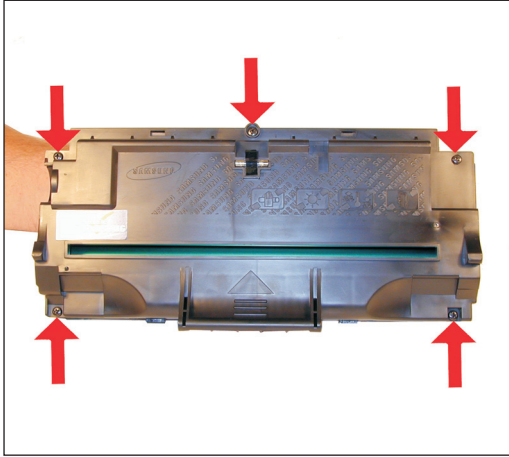

Figure 6
- 1) Place the cartridge with the handle facing up. Remove the 5 top cover screws. See Figure 6